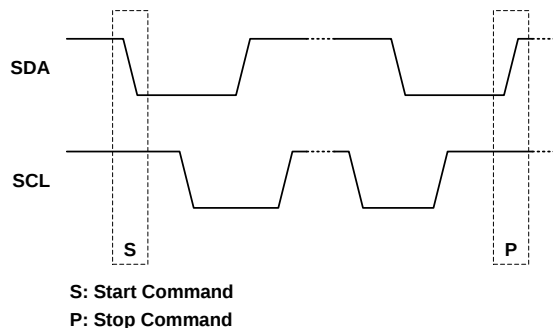

Figure 10: Start and Stop Commands
The start (S) and stop (P) commands are signaled by the master device, which signifies the beginning and end of the digital interface transfer. The start command is defined as the SDA signal transitioning from high to low while the SCL line is high. The stop command is defined as the SDA signal transitioning from low to high while the SCL is high (see Figure 10).